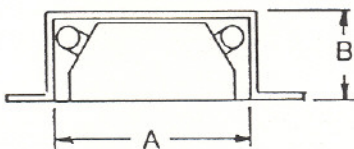

Figure 2
- b. In an exterior chase or projecting into a garage. (See Figure 2 for minimum space.)
Figures 2 and 3 show installations assuming outside air ducts with allowance for making 90° bends. Less space is required when ducting goes directly outside without forming elbows.